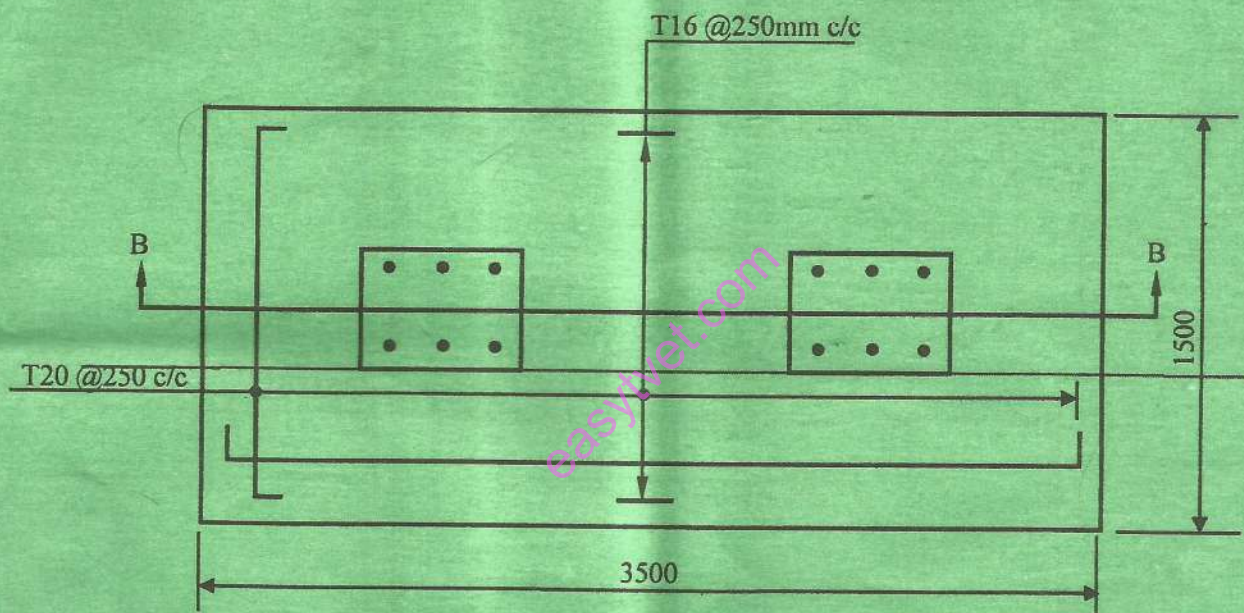

Fig. 5: R.C.C. Combined Column Base
- (b) **Figure 5** shows a plan of an R.C.C combined column base. To a scale of 1:25, draw section B-B. (15 marks)